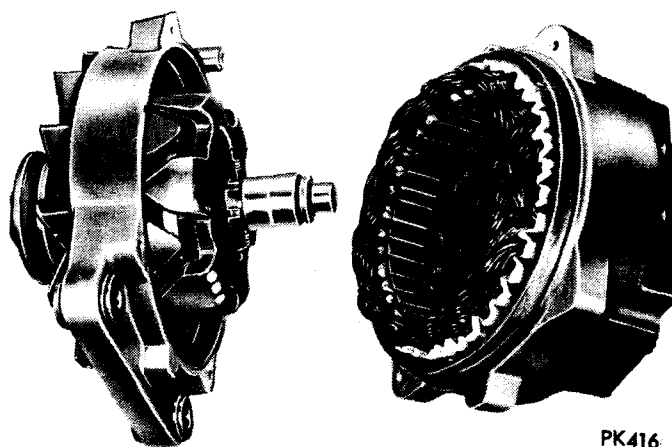

Fig. 3—Alternator Assembly 100 Amp
This alternator (Fig. 3) has twelve (12) built in silicon rectifiers, that convert AC current into DC current. Current at the "Output" terminal is DC.